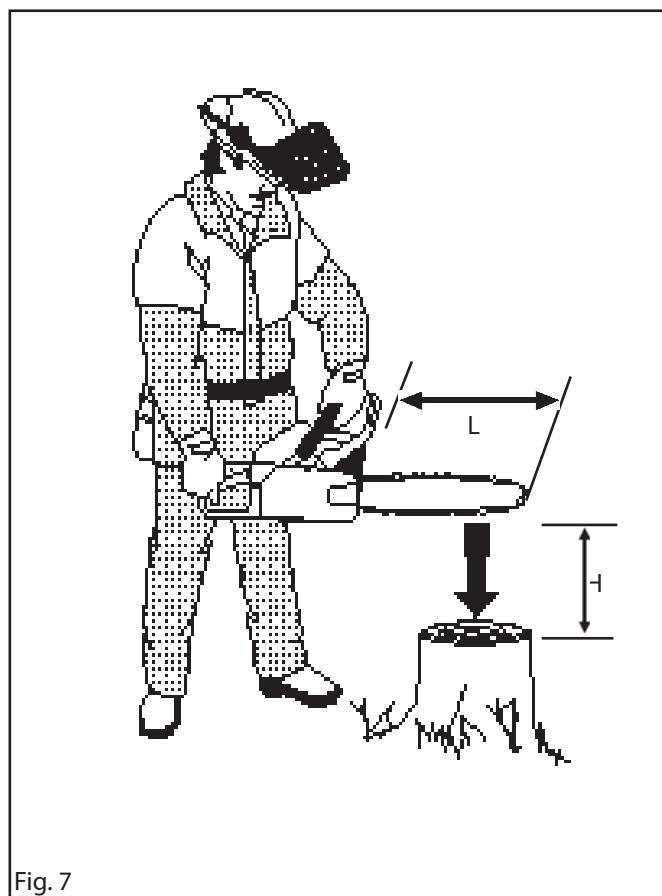

Fig. 7
1. Hold the saw over a stable surface as shown in fig. 7. The distance between the guide bar and the surface is given in the table below.